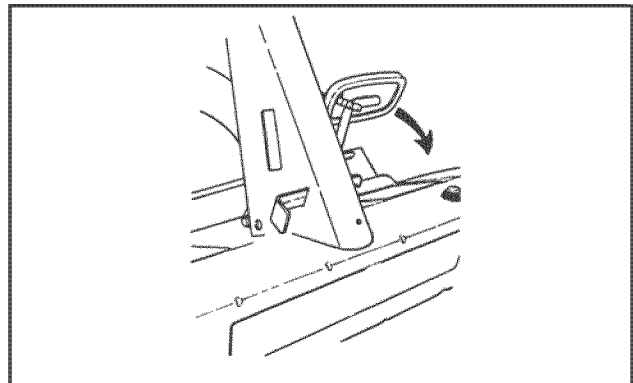

FIGURE 6
3. Press the clutch/brake pedal (Figure 6) all the way down and hold while starting the engine.